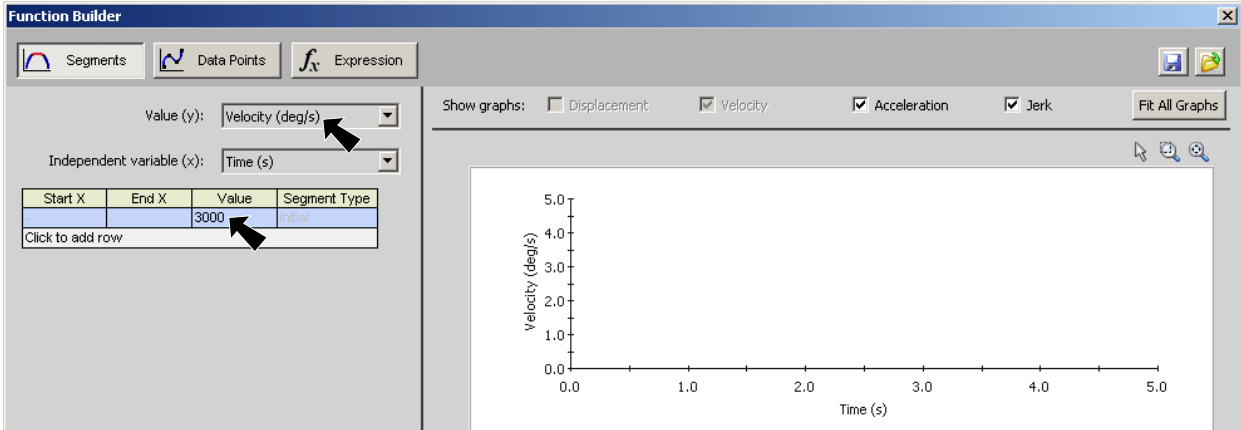

Fig. 7
Step 3. In the Function Builder dialog box set, **Fig. 7**:
Step 4. In the Segments chart, **Fig. 7**